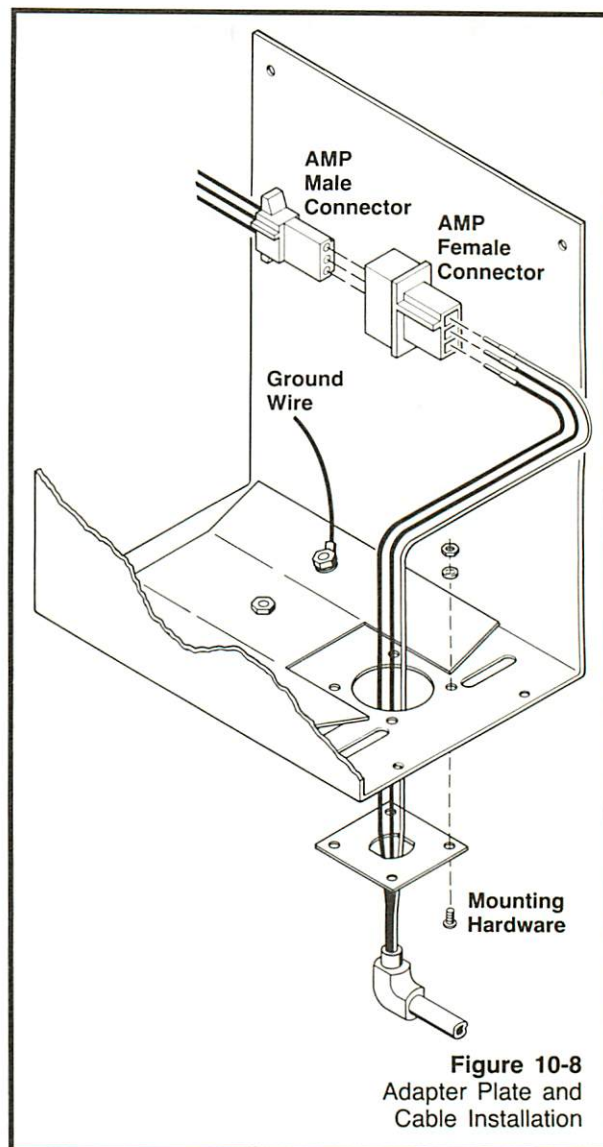

Figure 10-8
9. Remove the original socket connector from the cover and install the adapter plate (#0214-2262-500), on the underside of the cover, with the hardware used for the connector. See Figure 10-8.
10. Insert the lamphouse cable through the adapter plate. See Figure 10-8.
33. Place the Heyco strain relief (#0208-0323-300) on the power cord and insert it into the cover so the cord is pointing towards the front power switch. See Figure 10-8.